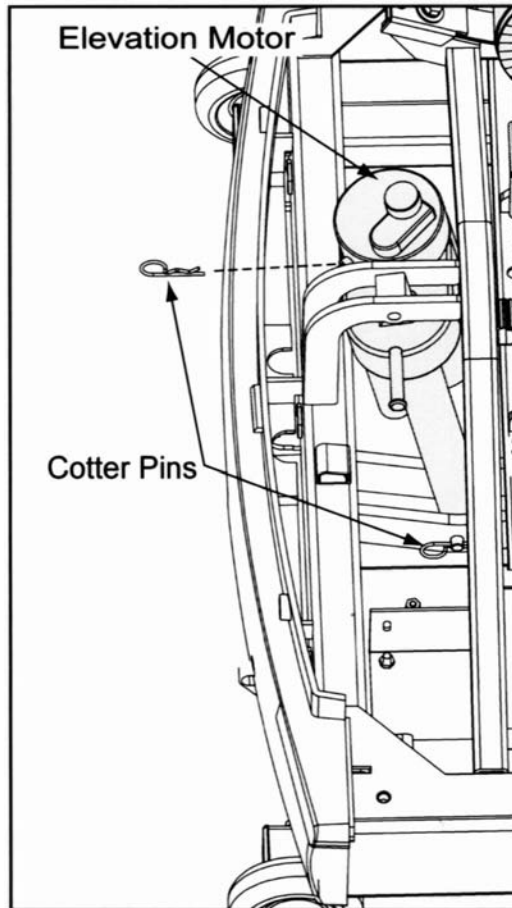

Figure 12
- C. Remove the lower and upper cotter pins. See Figure 12. Support the elevation motor while removing the clevis pins.
- B. Install the upper clevis pin (longer) and cotter pin. See Figure 12.